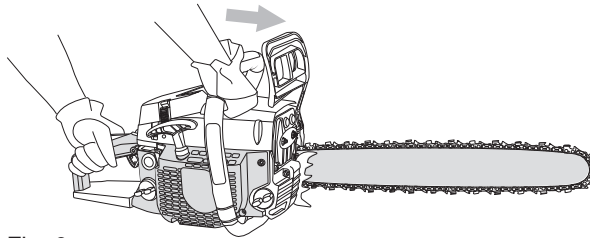

Fig. 6
- 4- While the unit is running, squeeze the throttle control trigger to 1/3 throttle and then engage the chain brake by pushing the chain break lever forward with the left hand(Fig.6).